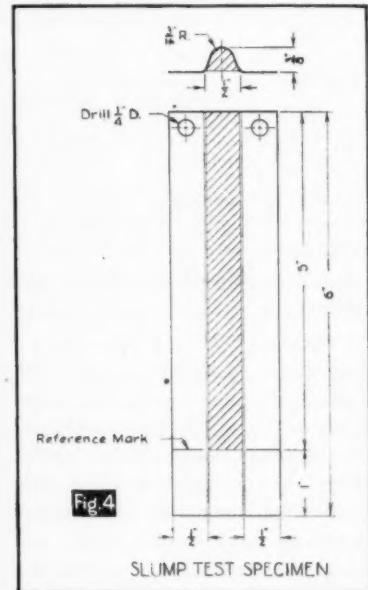

Fig. 4
**Specimen:** Ground coated test channels of shape and dimensions shown in Figure 4 were employed. After thorough cleaning with naphtha the  $\frac{3}{8}$ " semi-cylinder is filled with the caulking compound, which is cut sharply at the reference mark. All excess compound is removed from the exposed surfaces of the test piece to avoid any possible restraining action from dry films of this material. Tests should be made in duplicate on adjacent specimens.